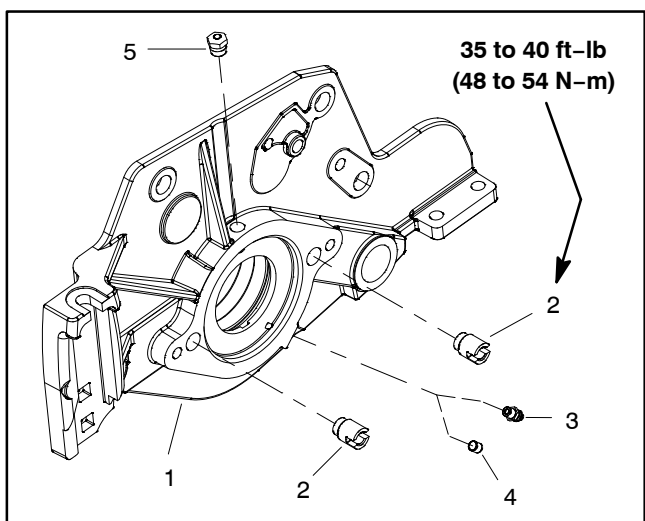

Figure 21
The cutting unit side plates (Fig. 21) have threaded inserts at the locations used for the cap screws that secure the reel motor. Check the condition of the threaded inserts whenever the cutting reel motor is removed and replace inserts if damage is found. Inserts should be torqued from **35 to 40 ft-lb (48 to 54 N-m)** during installation.
For proper lubrication of the reel motor splines, a grease fitting (item 3 in Fig. 21) must be installed in the cutting unit side plate on the reel motor side of the cutting unit. On the non-drive side plate, a set screw (item 4 in Fig. 21) should be installed so that it is flush with the side plate surface.